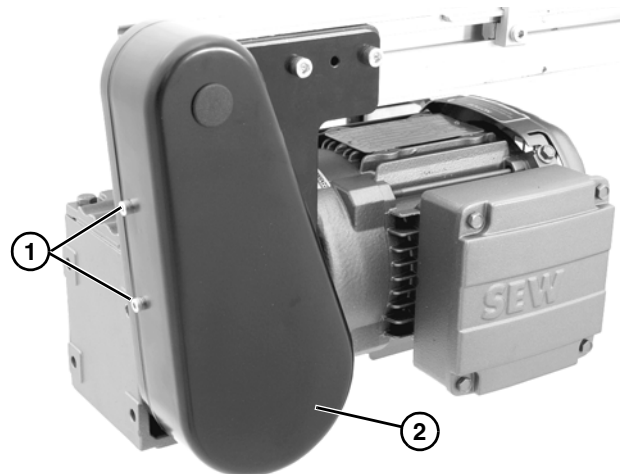

Figure 24
2. Remove four (4) screws (Figure 24, item 1) and remove cover (Figure 24, item 2).